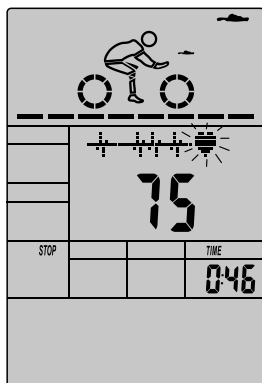

Fig 41
- Press RECOVERY to start pulse recovery test, meanwhile, the computer program will be in the stop status. (Fig 41)